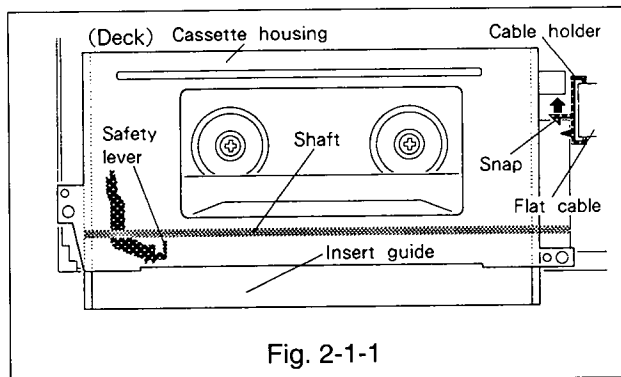

Fig. 2-1-1
2-1-1 Removal(Refer to Fig. 2-1-1~2-1-2.)
- Unfasten the snap of the cable holder and remove the cable holder from the cassette housing as shown in Fig.2-1-1.
2-1-2 Installation(Refer to Fig.2-1-1~2-1-3.)
- Slowly lower the cassette housing onto the main plate of the deck so that the safety lever enters between the insert guide and the shaft as shown in Fig. 2-1-1. Align the two positioning holes (e, f) and the two U holes (g, h) located on the cassette housing with the matching holes in the deck.